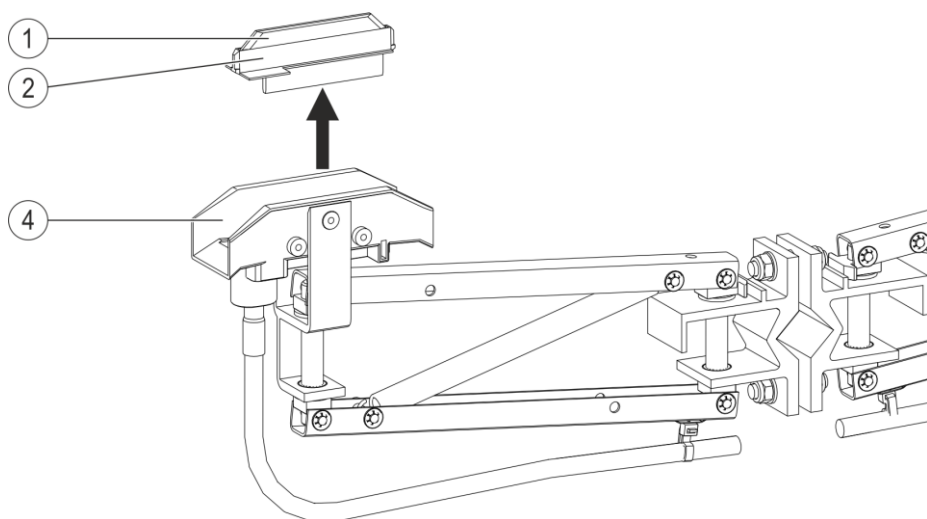
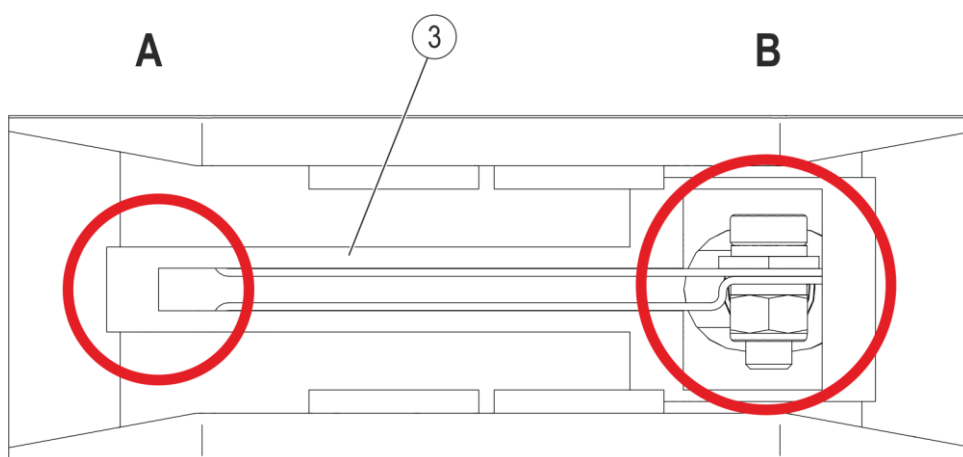
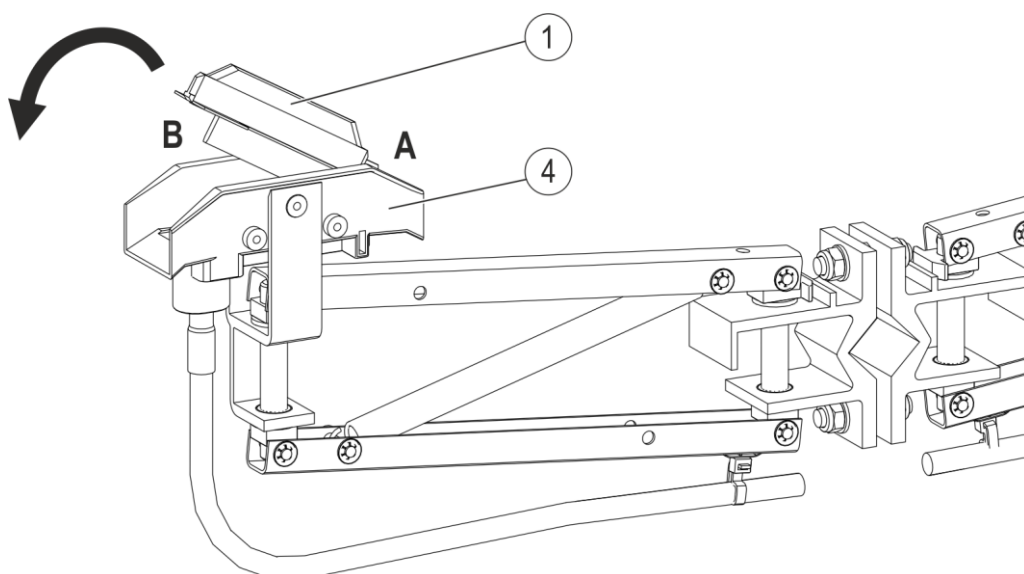

Fig. 127: Remove sliding contact (Pos. 1) and plastic insulation (Pos. 2)
Fig. 128: Farthest side (A) and narrowest side (B) of the contact plate (Pos. 3)
Fig. 129: Sliding contact cut-out on the side of the rail
In order to replace the sliding contact (Pos. 1) (see Fig. 127), the following work steps must be conducted:
- Hold the current collector head firmly and use water pump pliers to adjust the sliding contact (Pos. 1) with its plastic insulation (Pos. 2) pulled out. Start pulling out on the more open side (= side A in Fig. 128) of the contact plate (Pos. 3) (see Fig. 127 and Fig. 128).
- Clean the area under the plastic insulation (Pos. 2), particularly the contact surface of the contact plate (Pos. 3) (see Fig. 128).
→ Press the new sliding contact with its plastic insulation by hand into the sliding contact insulation (Pos. 4) (see Fig. 129). Start at the more open side of the contact plate (side A in Fig. 128) and then fully insert the sliding contact while turning. No tools (such as a hammer) may be used when pressing in, as this can damage the contact surfaces of the sliding contact. Please note the following when inserting:
- The sliding contact cut-out (Pos. 1) must sit on the side of the rail (Side B) (see Fig. 129).